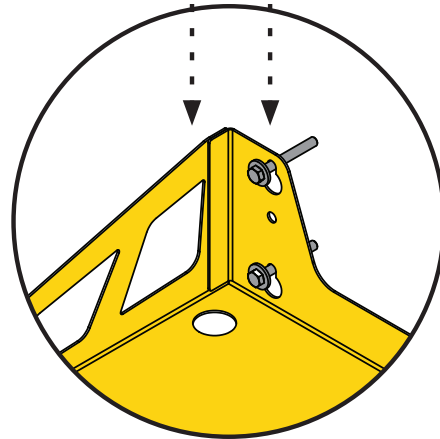

FIG. 8
Lift the Wall Bracket (F) up and over the fasteners so that the washer is on the inside of the bracket. Slide the Wall Bracket (F) down so that the fastener is snugly inside the smaller section of each keyhole [FIG. 8].